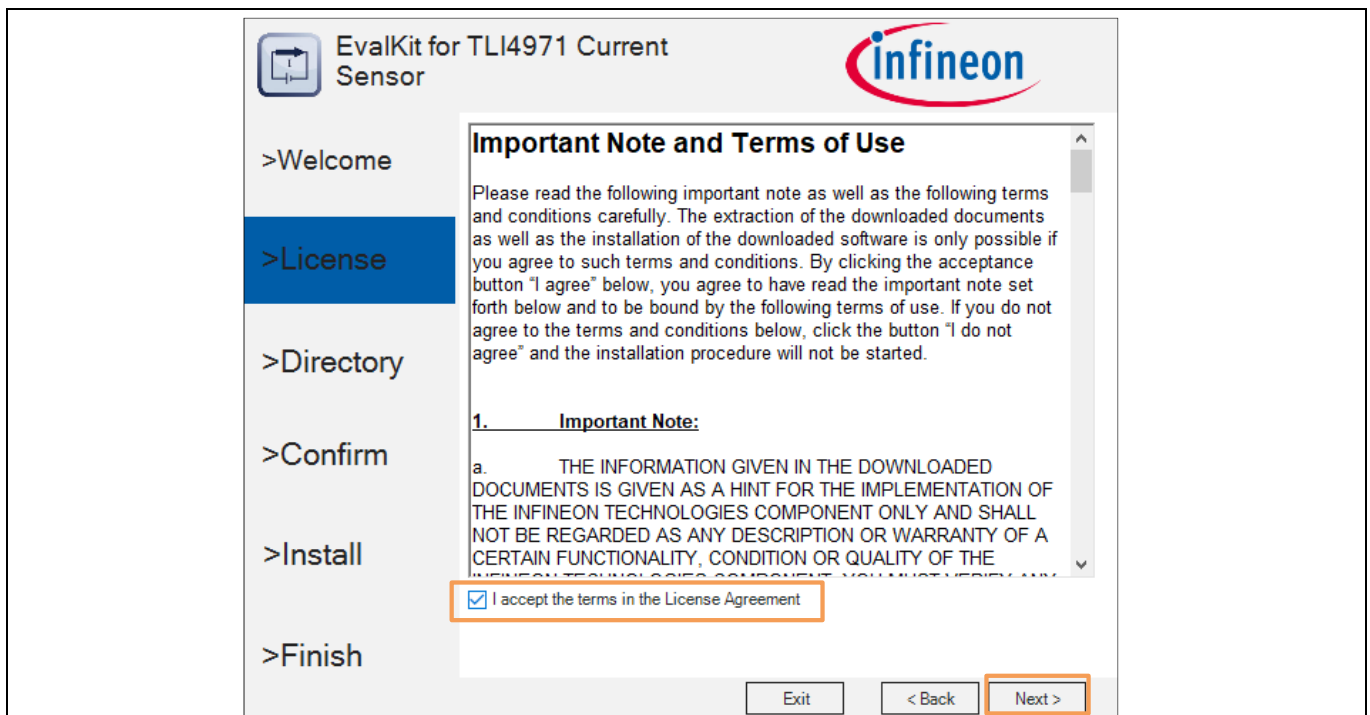

Figure 20 EvalKit Installer 1.0.2 – License Agreement
- Read through the license agreement carefully and continue the installation by selecting the check box of “I accept the terms in the license agreement”, see orange color box in Figure 20. If the license agreement is not accepted, then the installation will not continue to further steps. Click “Next” button to continue with the installation